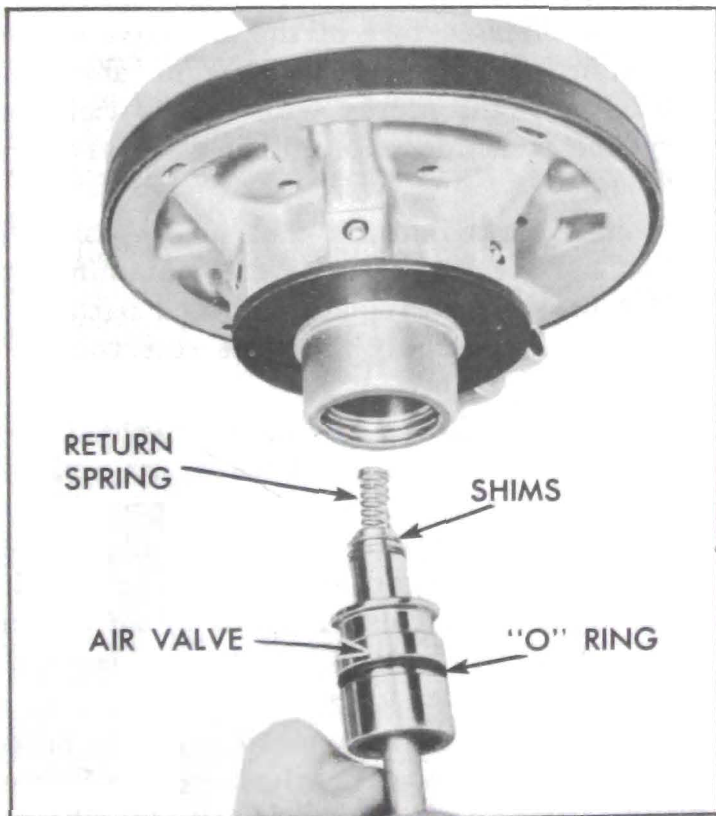

Figure 9-17—Removing or Installing Air Valve Assembly
7. Hold power piston assembly with push rod down and pull out push rod and air valve. See figure 9-17. Lift off the spring, snubber, and spacers (note number of spacers). Remove O-ring from air valve.